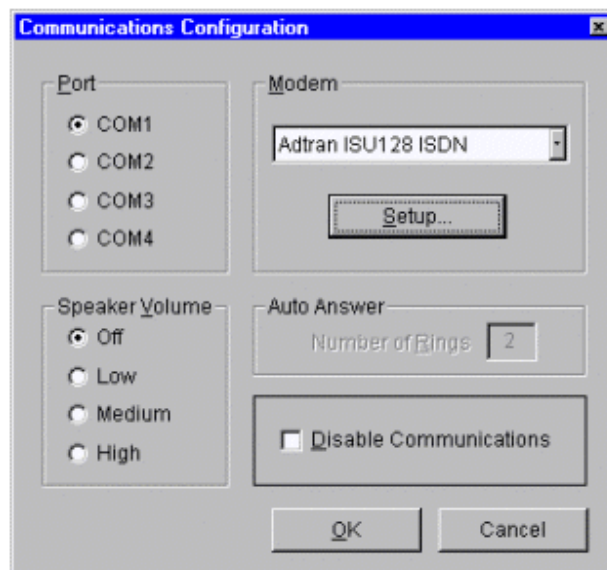

Figure 2
6. Under **Modem** select **ADTRAN ISU 128 ISDN** (Use for all units, see Figure 2)